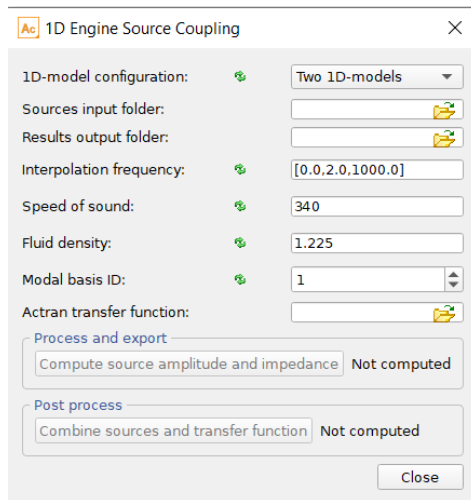
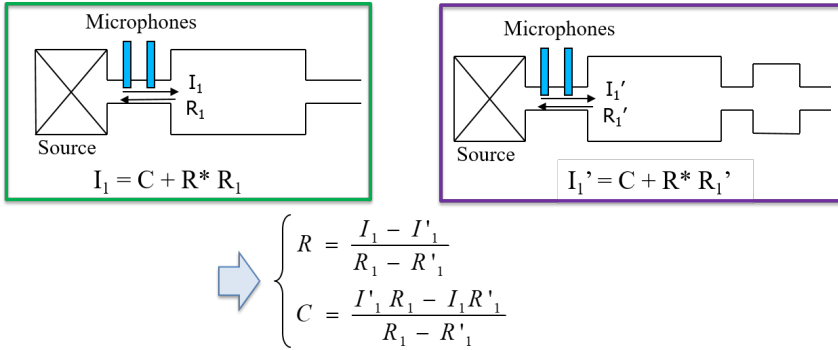

Figure 23.33: Double configuration window
Figure 23.34: Double configuration source evaluation
- A double configuration method that can provide the amplitude of the source with the corresponding reflection factor, as shown in Figure 23.33. In this configuration, it is expected to have both configurations provided in two separate folders names Config1 and Config2 respectively. The evaluation of both the source amplitude and reflection factor is then obtained as shown in Figure 23.34.